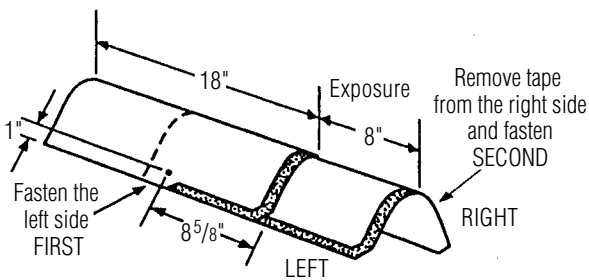

Figure 16-19: Installation of Shangle® Ridge shingles on hips and ridges.
- Fasten each cap with two fasteners (Figure 16-19). The fasteners must be 13/4" long, or longer, so they penetrate either 3/4" into the deck or completely through the deck, exposing at least 1/8" of the tip of the nail. Expose 8" of the Accessory along the ridge or hip line and cover all fasteners.